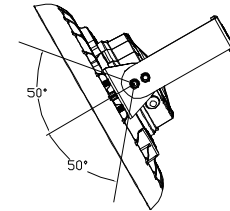

Figure 7
4. After installation, follow the local wiring rules to connect the fixture's wire to the mains. Ensure a stable connection and provide proper protection for it. By adjusting the bracket screws, users can vertically adjust the fixture up to 50° to the left or right (refer to Figure 7).